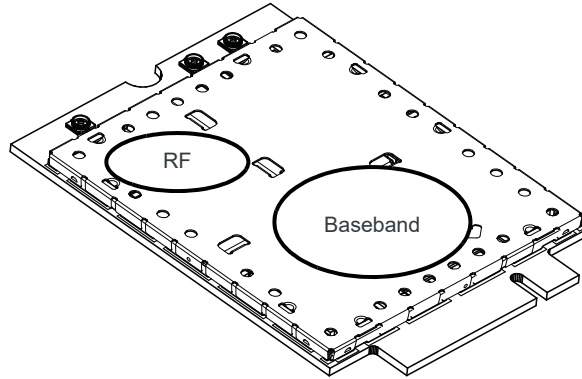

Figure 6-4: Shield Locations (Top View)
- Monitor temperature at all shield locations. Attach thermocouples to the areas indicated in Figure 6-4 on page 61 (RF, Baseband).